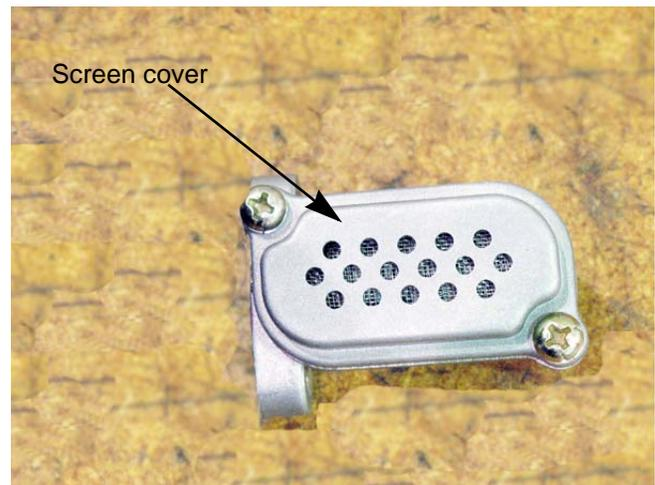

Figure 8.8
2. Remove the two screws that secure the screen cover using a #2 Phillips screw driver. See Figure 8.8.